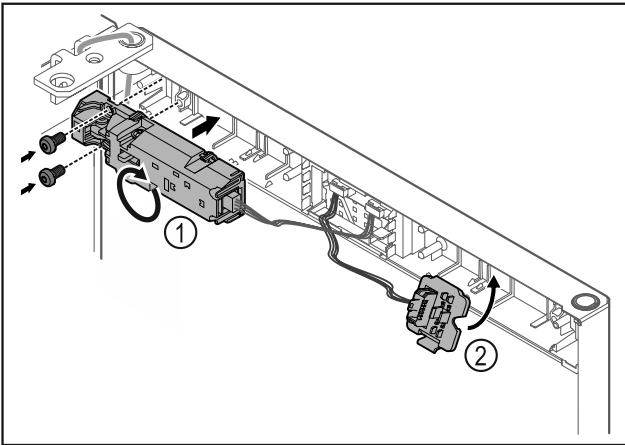

Fig. 13
- ▶ Turn the remote lock Fig. 13 (1) by 180° and fasten it on the opposite side.
- ▶ Latch the plug holder Fig. 13 (2) on the opposite side.*